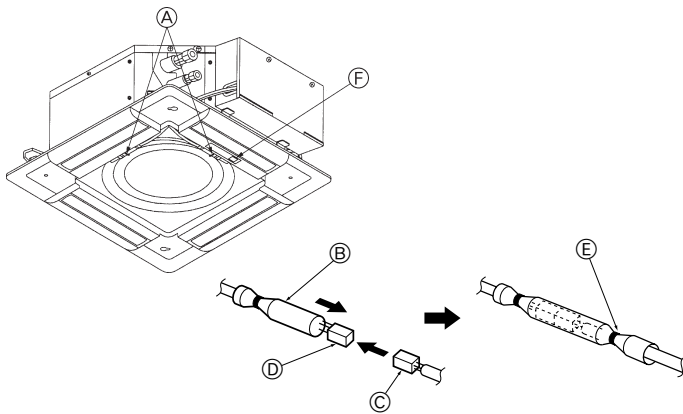
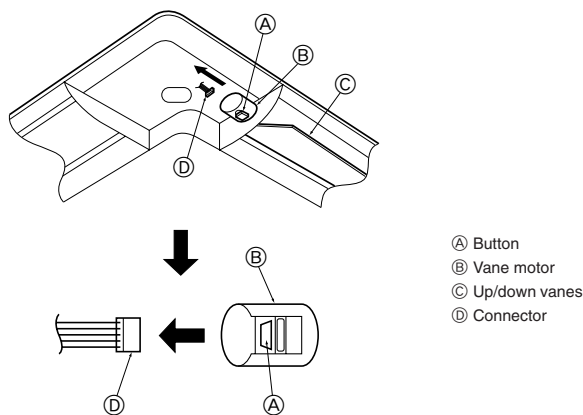

Fig. 8-8
Fig. 8-9
8.3.4. Wire connection (Fig. 8-8)
- (A) Fastener (Accessory)
- (B) White glass tube
- (C) Connector of the main unit
- (D) Connector of the grille
- (E) Band (Accessory)
- (F) Receiver (For SLZ-KA25/KA35/KA50VAL)
8.4. Locking the up/down airflow direction (Fig. 8-9)